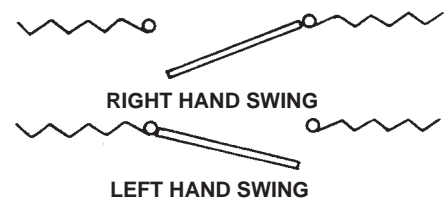

Figure 2. Swing Gate
(3) CHECK THE GATES: Before starting Operator installation, inspect to ensure that the gates are in good working condition, are rigidly supported, and have no obstructions to block or retard their swing. Electric Gate Operators cannot be expected to power operate gates where conditions prevent or resist manual operation. Latches, foot bolts, or other devices should be removed from the gate to prevent their accidental engagement. When standing in a position facing the closed gate and the gate swings toward you to open, the gate has its pivot pin to the left, this is considered a left hand. When the gate has its pivot pin on the right and opens toward you, it is considered right hand. Refer to Figure 2 Swing Gate for gate handling.
(4) REVIEW THE INSTALLATION DRAWINGS: The installation drawings show the layout of the gate, template drilling for the gate bracket and channel post, and general terms used to describe components. Review of the installation drawings will familiarize you with the equipment.